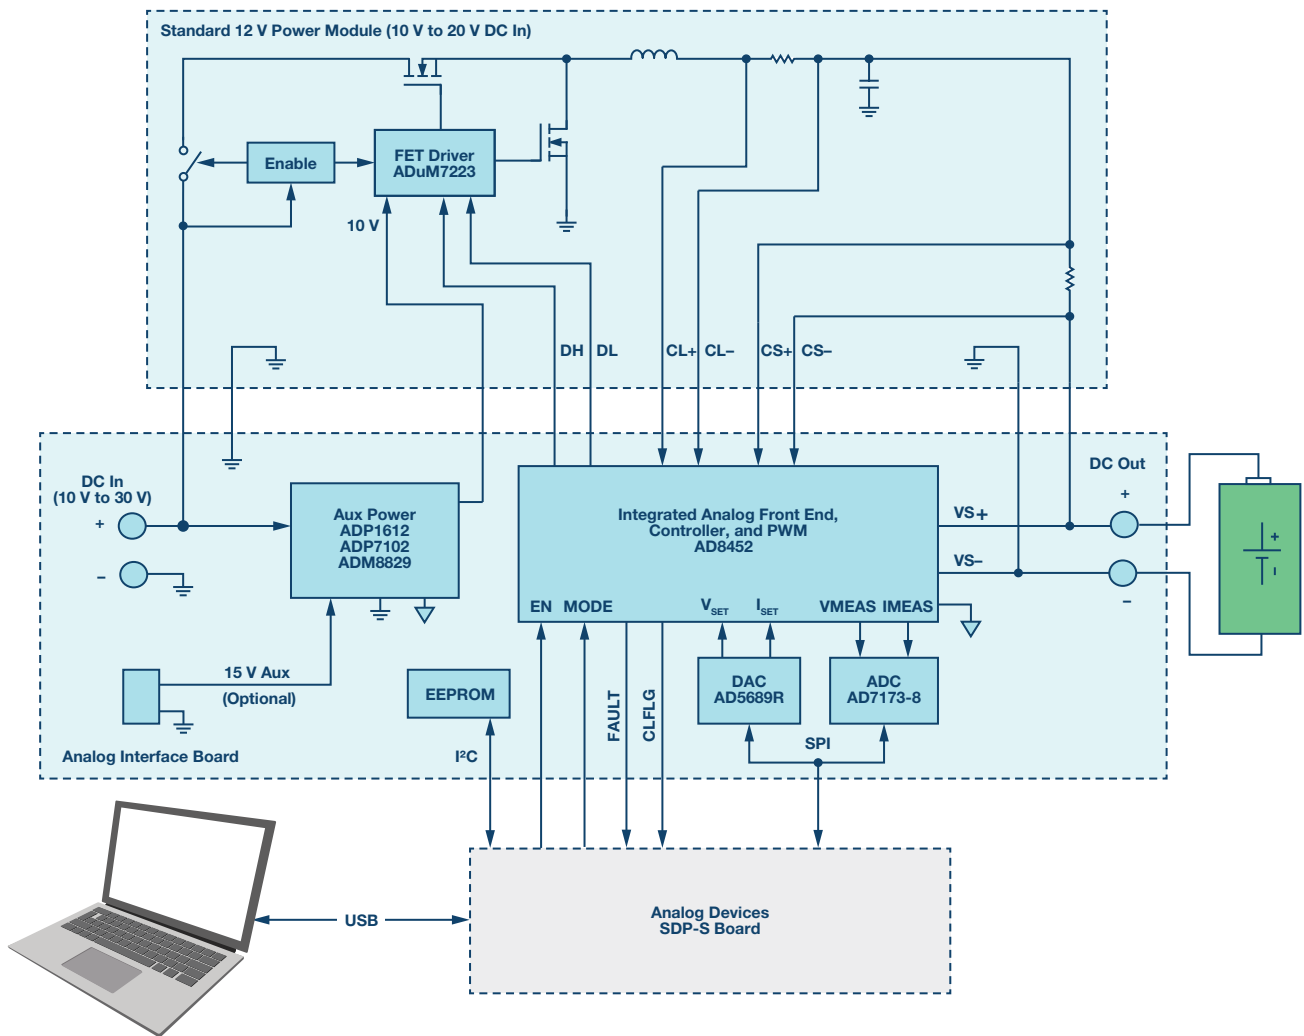
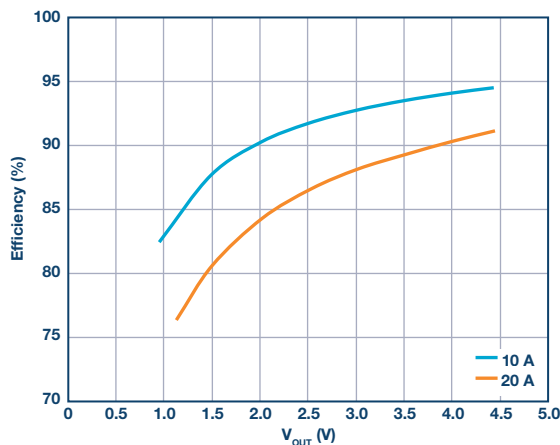

Figure 2. Single-channel system built around the AD8452.
Figure 3. Results of system power efficiency tests.
Figure 2 shows a single-channel system built with ADI's new integrated silicon chip, AD8452. This one chip solution allows the system to be easily configured with different power stages. The analog front-end part of AD8452 measures and conditions the voltage and current signals in the loops. It also has a built-in PWM generator configurable for buck or boost mode operation. The interface between the analog controller and the PWM generator consists of low impedance analog signals that don't suffer from the jitter causing problems in the digital loop. The output of the constant current (CC) and constant voltage (CV) loops determine the duty cycle of the PWM generator, which drives the MOSFET power stage through the ADuM7223. When the mode changes from charge to discharge, the polarity of the in-amp inside the AD8452 that measures the battery current reverses. Switches inside the CC and CV amplifiers select the correct compensation network, and the AD8452 changes its PWM output to boost mode. This entire function is controlled via a single pin and standard digital logic. In this implementation, the AD7173-8 high resolution ADC monitors the system, but it is not part of the control loop. The scan rate is unrelated to control loop performance, so a single ADC can measure current and voltage on many channels in multichannel systems. This is true for the DAC as well, so a low cost DAC such as the AD5689R can control multiple channels. In addition, a single processor only needs to set the CV and CC set points, mode of operation, and housekeeping functions, so it can interface with many channels without becoming the bottleneck in control loop performance. A system configured with a 4 V battery and 20 A maximum current results in better than 90% efficiency and typical accuracy over $25^{\circ}\text{C} \pm 10^{\circ}\text{C}$ of 90 ppm for current loops and 51 ppm for voltage loops. The CC to CV transition is glitch-free and occurs within 500 μs . Current ramping from 1 A to 20 A needs less than 150 ms. This number could be much faster depending on configurations. Users will need to make some trade-offs, for example, between ramping time and low current performance to decide how fast they like the ramping to be. These specifications are ideal for vehicle battery manufacturing and testing. Figure 3 shows the efficiency in CC discharge mode at 10 A and 20 A as an example. Complete test results are available directly from ADI.